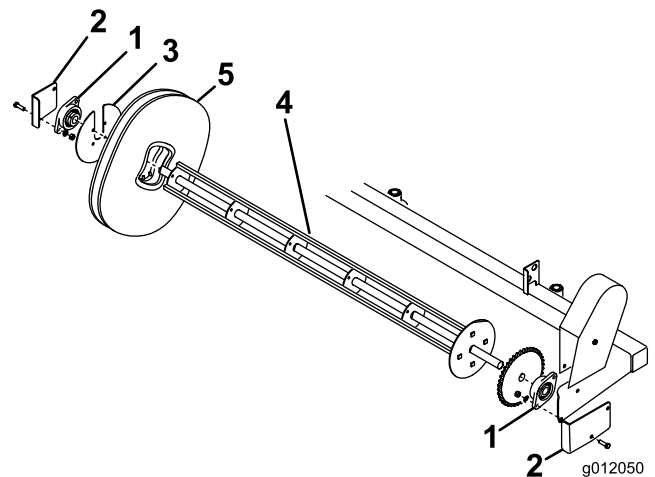

Figure 25
3. Remove fasteners securing axle bearings to right and left guards. This will allow removal of axle assembly and bearings (Figure 25).
4. Remove axle plate from axle assembly (Figure 25).
5. Slide broom elements off axle assembly (Figure 25).